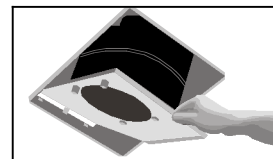

Fig. 3
1. After you have installed the housing in the ceiling, run ducting from the unit to the outside and have made the necessary electrical connections you can reinstall the venturi and blower in the fan housing (Fig. 3). Plug the fan's blower assembly into the fan's receptacle and secure the blower housing with the screw removed earlier. Rotate the blower wheel by hand to ensure it revolves freely.